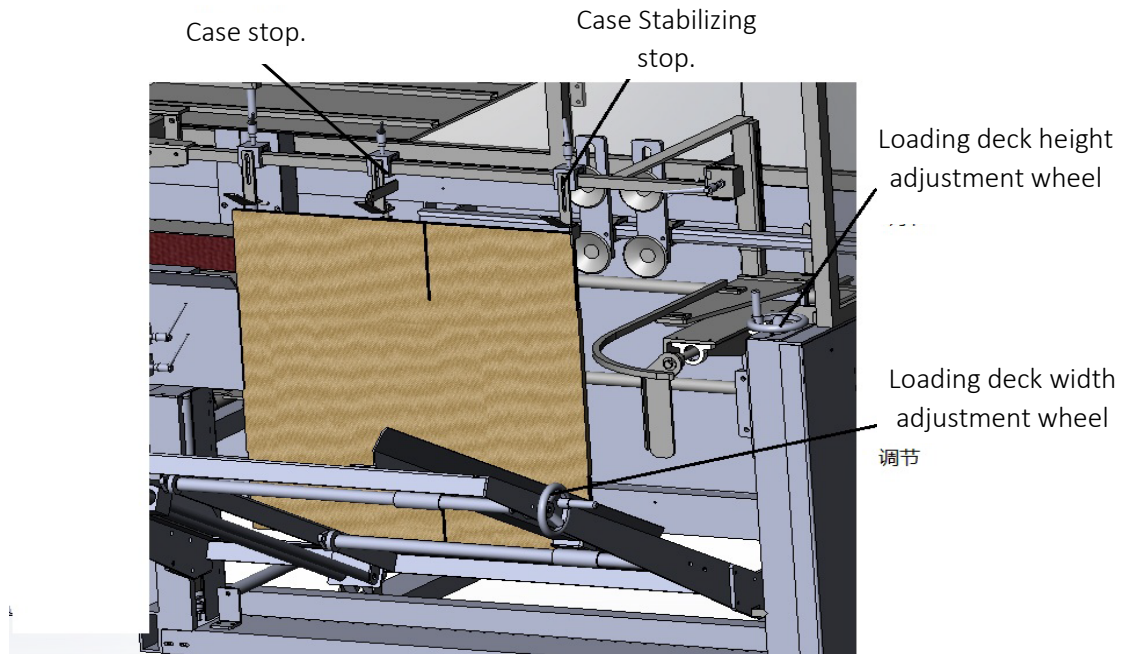

Figure 5.
- 2) Begin by placing a flat and unfolded box onto the loading deck and set the width using the hand wheel in figure 5.